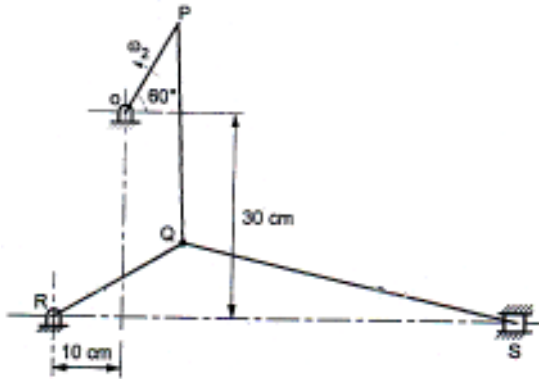

Fig. 2
b) Fig. 2 shows the mechanism in which the length of various links are as follows : $OP = 15\text{ cm}$, $PQ = 30\text{ cm}$, $QR = 22.5\text{ cm}$ and $QS = 50\text{ cm}$. Find the velocity of slider ‘S’ and angular velocity of links QR and QS when the crank OP is rotating uniformly with a speed of 240 rpm in counter-clockwise direction by instantaneous centre method. 14